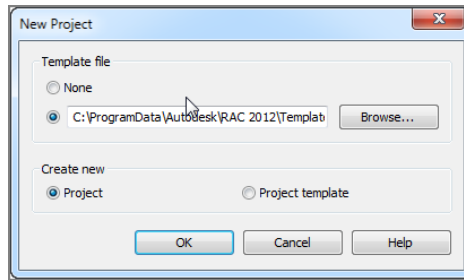

FIGURE 1.55: A new Revit model is based on an .rte template file.
2. In the resulting dialog, shown in Figure 1.55, click the Browse button.